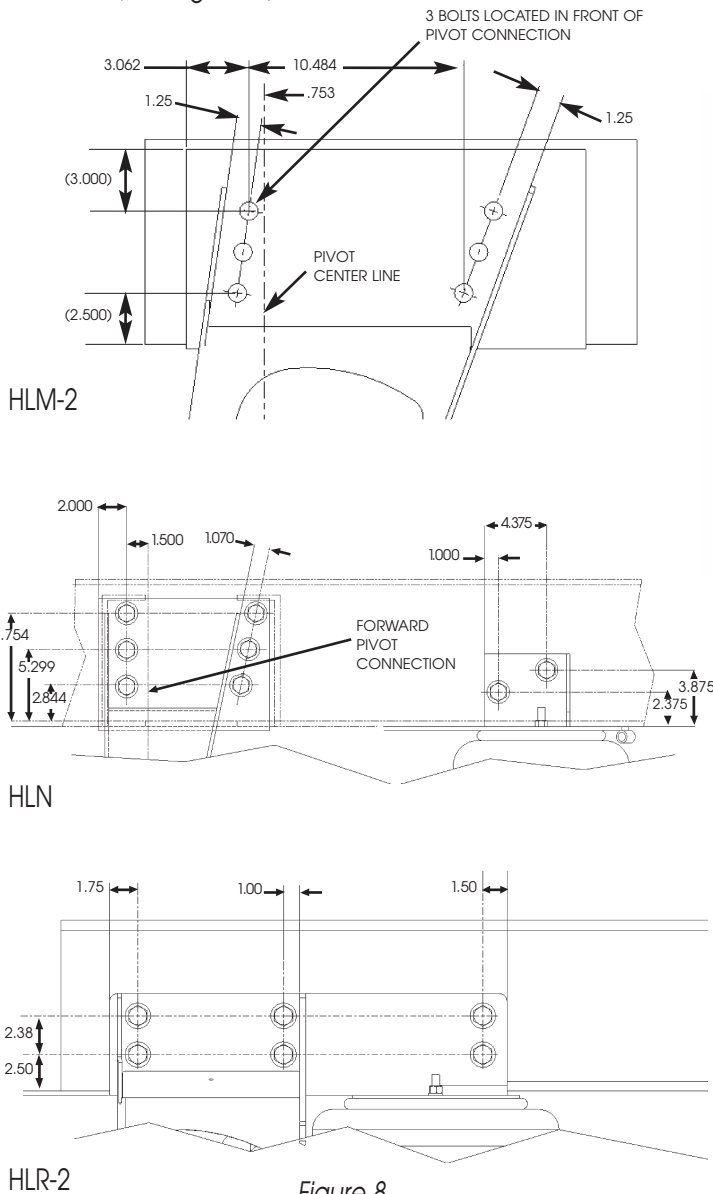

Figure 8
- With the suspension frame brackets tight against the vehicle frame, mark the location of the mounting holes on the outward side of both auxiliary suspension frame rails. Punch mark all hole centers. (See Figure 8.)